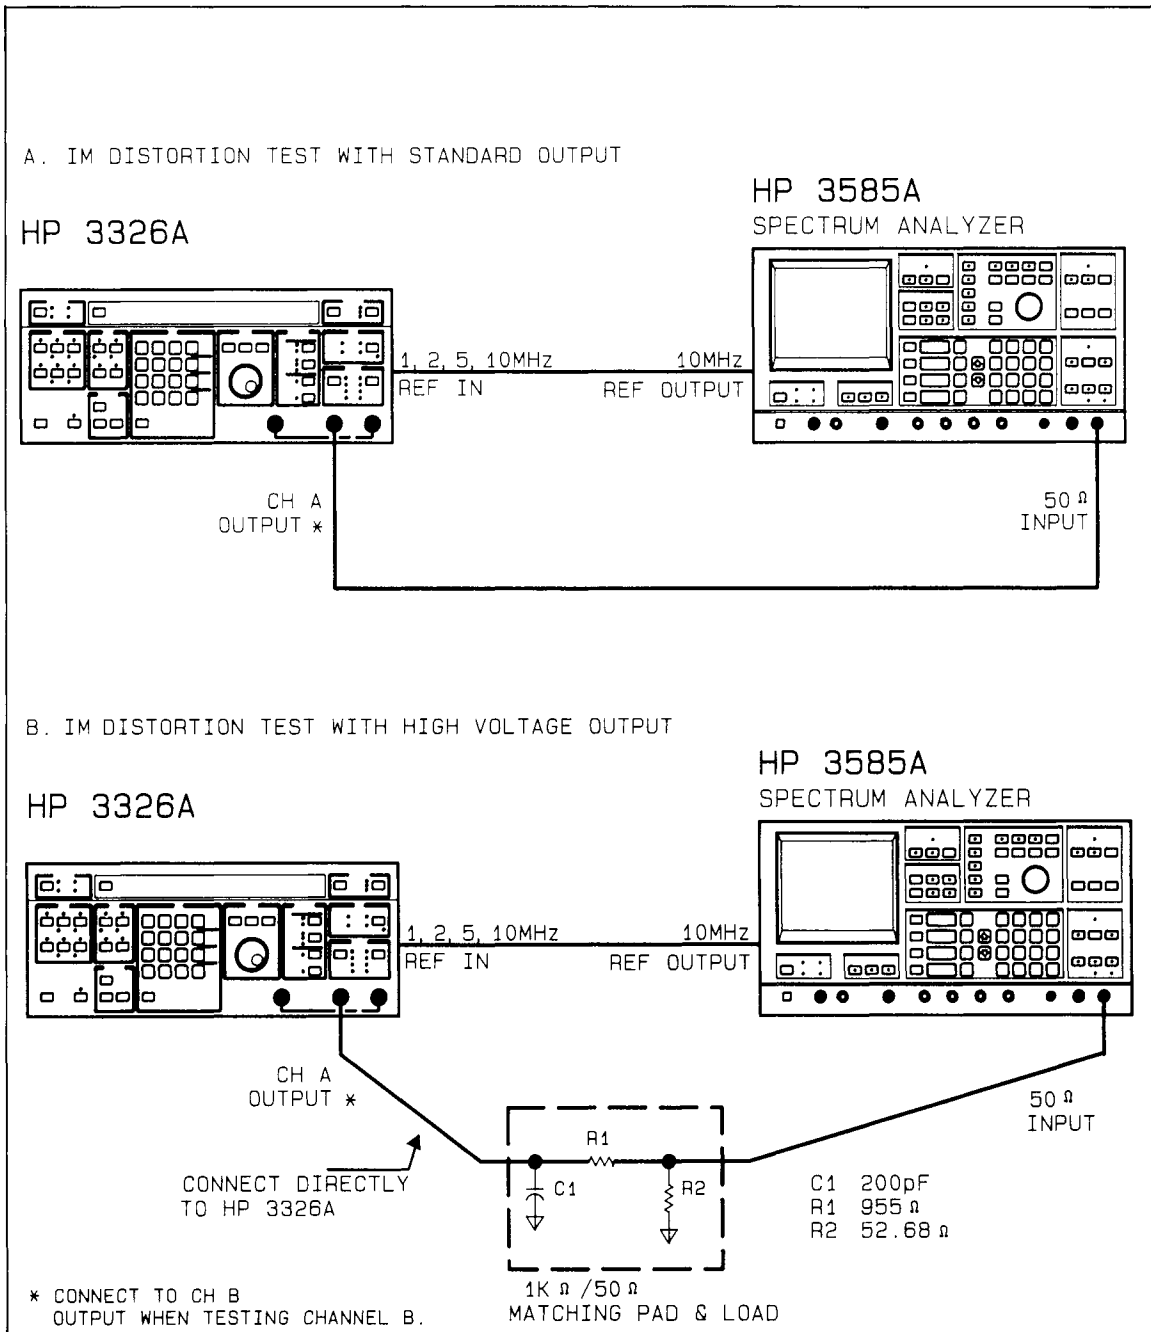

Figure 2-4. Combiner IM Distortion Test
2. Connect the test equipment as follows (illustrated in Figure 2-4(A)):
2. Connect the test equipment as follows (illustrated in Figure 2-4(B)):